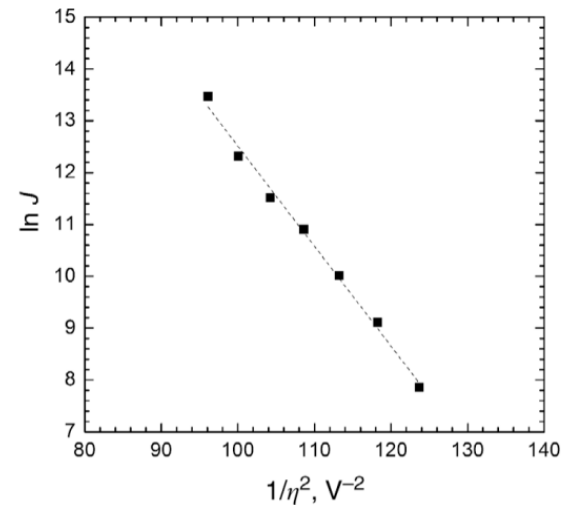

Figure 13.9 Determination of ΔG_{crit} from a plot of $\ln J$ versus $1/\eta^2$.
-For 3D, J vs. $1/\eta_s^2$ (Fig. 13.9)